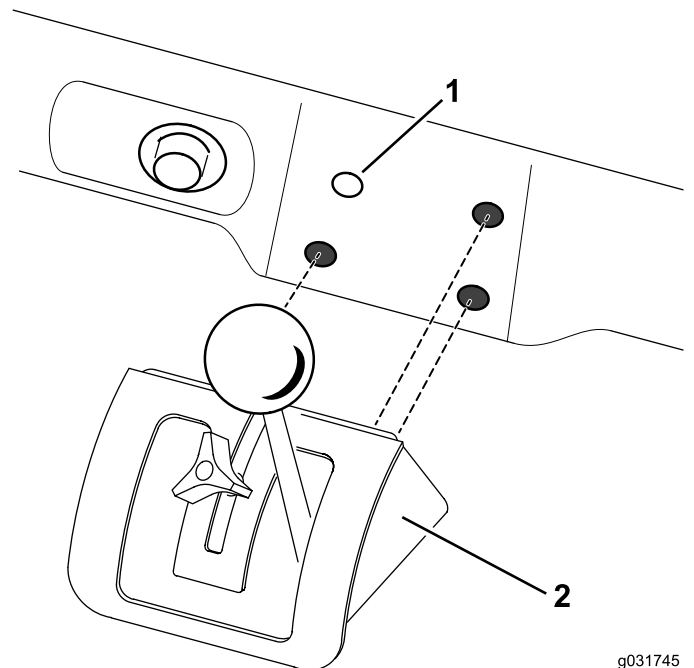

Figure 3
2. Use the 3 bolts (5/16 x 1 inch) that are included in the kit and the locknuts that you removed in the previous step to secure the hand throttle assembly to the dashboard in the hole locations shown in Figure 3.